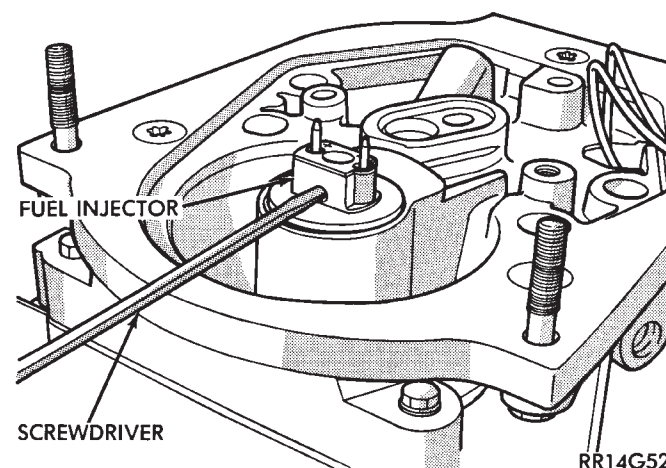

Fig. 8 Removing Fuel Injector
- (6) Using a small screwdriver placed in the hole in the front of the electrical connector, gently pry the injector from the pod (Fig. 8).